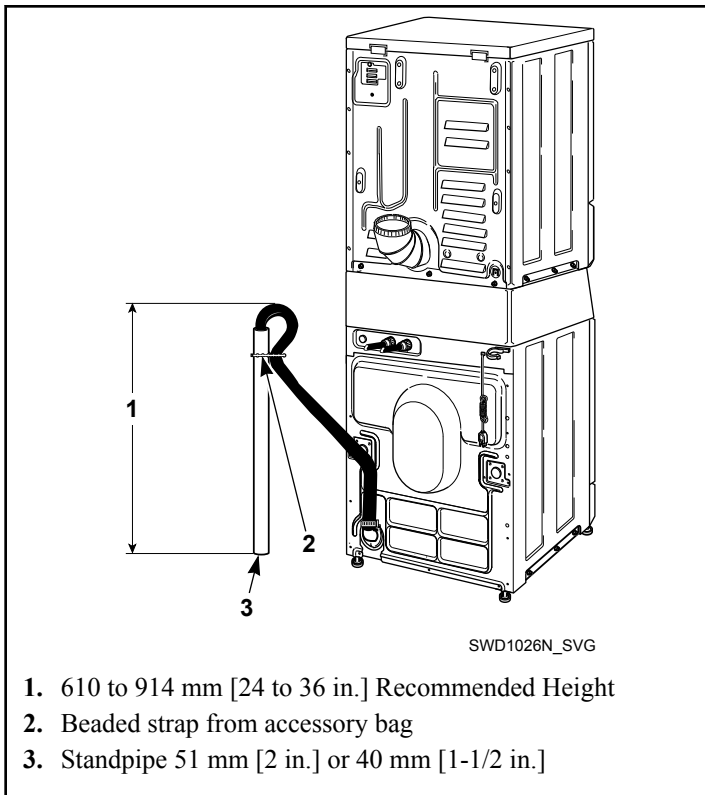

Figure 10
2. Remove the beaded tie-down strap from accessories bag and place around standpipe and drain hose and tighten strap to hold hose to standpipe. Refer to *Figure 10*. This will prevent the drain hose from dislodging from drain receptacle during use.